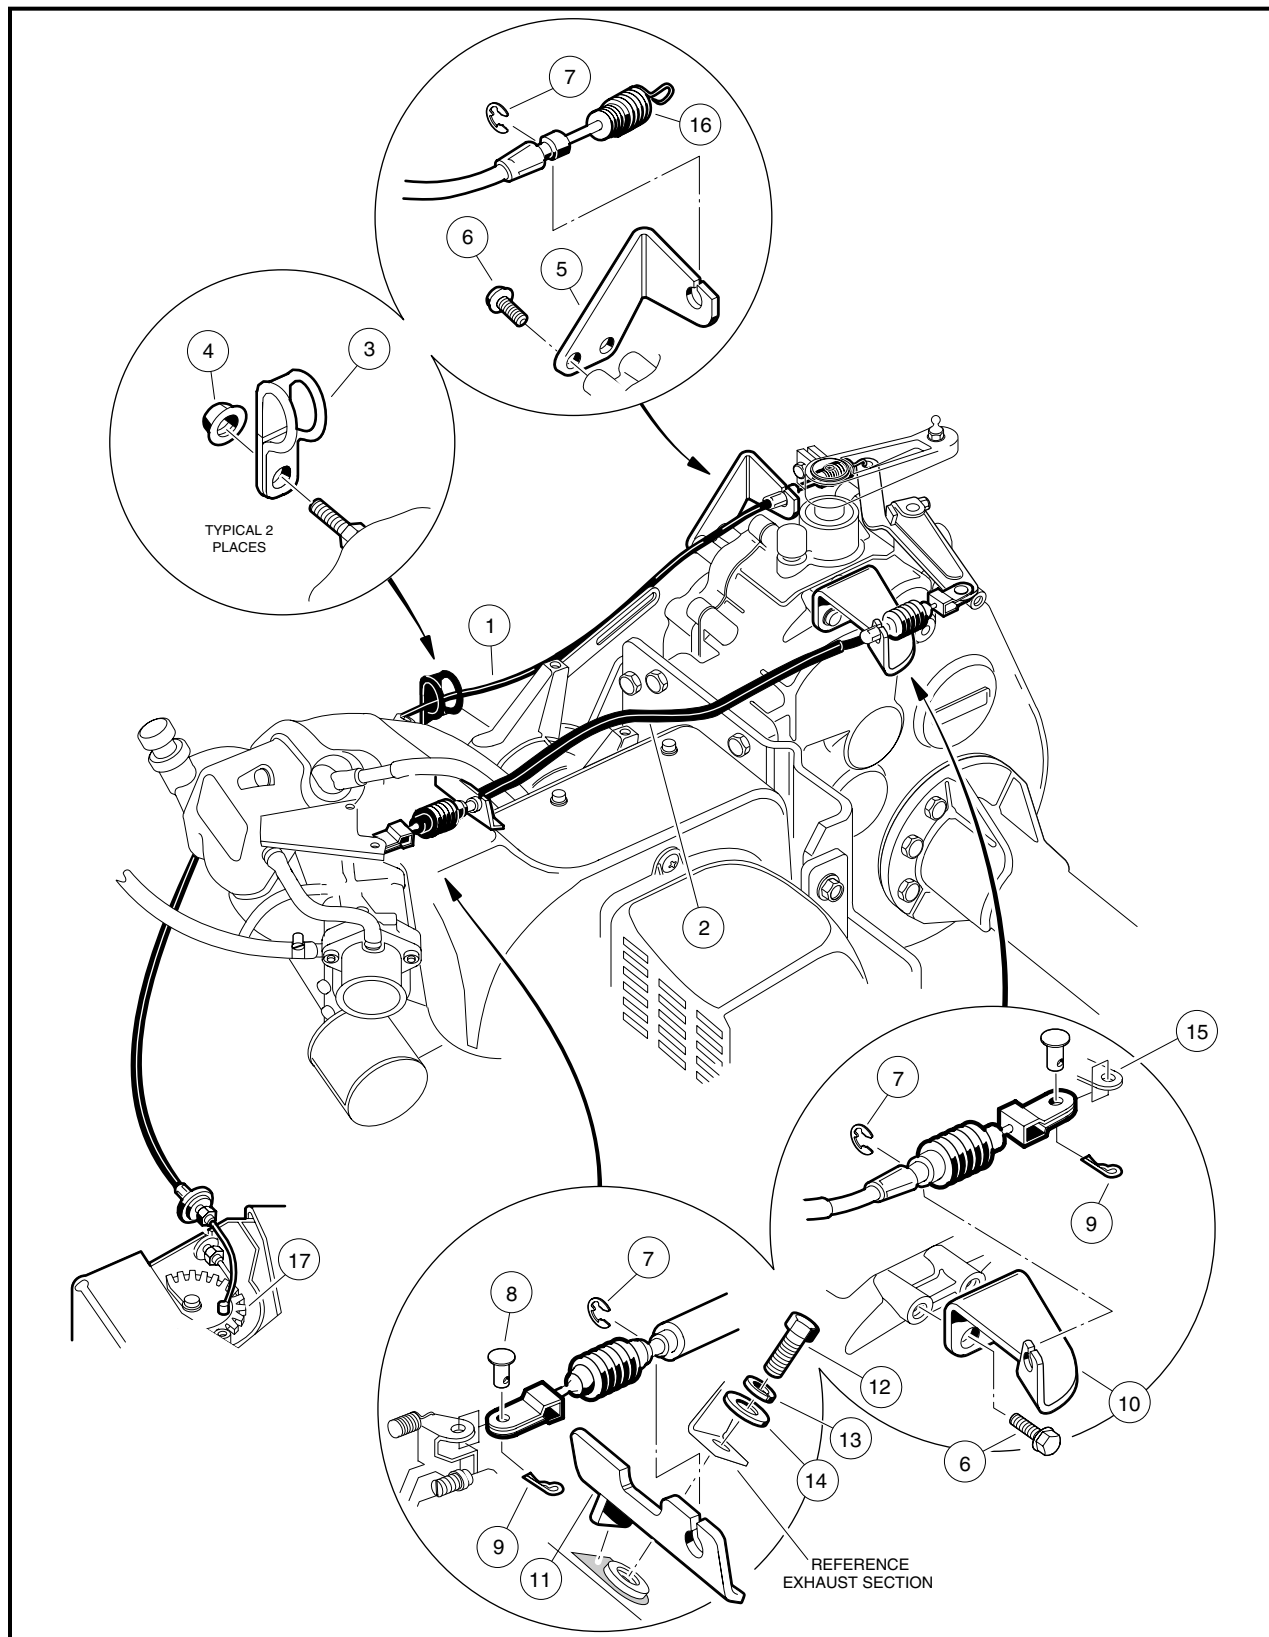

Figure 14-12 Governor and Accelerator
4. Remove the E-ring (7) at the governor cable engine bracket (11), and governor cable support bracket (10) (**Figure 14-12, Page 14-14**).
5. Remove the cotter pin (9) and clevis pin (8) from the governor lever arm (15).
6. Remove the cable (2).
1. Install the cable onto the governor cable support bracket (10) and the engine bracket (11) and attach an E-ring (7) at each end (**Figure 14-12, Page 14-14**).
3. Install governor cable end into carburetor throttle clevis and install clevis pin (8) and cotter pin (9).
4. Install governor cable clevis over governor lever arm and install clevis pin (8) and cotter pin (9).
5. Disconnect cable (1) (**Figure 14-12, Page 14-14**) from cam (17) in the electrical box (**Figure 14-10, Page 14-13**).
6. Remove the E-ring (7) on the spring end of the cable at the accelerator cable bracket (5) (**Figure 14-12, Page 14-14**). Pull the cable housing out of the bracket.
7. Disconnect the spring (16) from the engine governor arm by rotating the arm counterclockwise one-half turn. Remove the cable assembly from the vehicle.
1. Connect the cable to the cam (17) in the electrical box (**Figure 14-12, Page 14-14**).
3. Connect the spring (16) to the engine governor arm (**Figure 14-12, Page 14-14**).
4. Install cable in accelerator cable bracket (5) and secure it with E-ring (7).